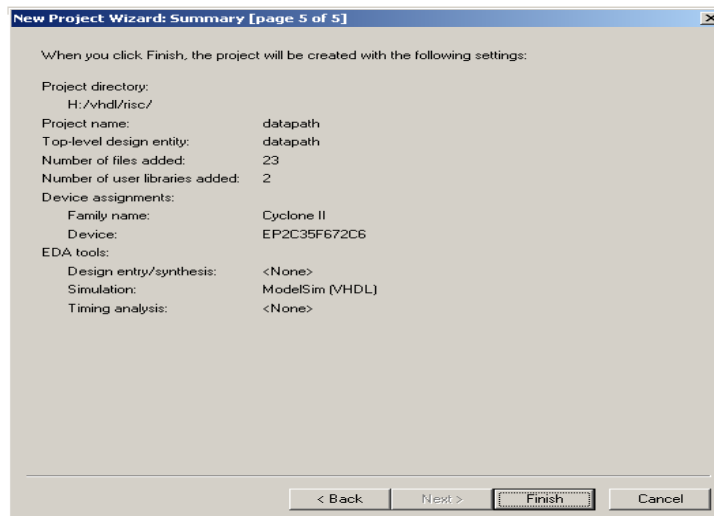

Fig. 9
8) A summary of the chosen settings appears in the screen shown in Figure 9. Press Finish, which returns to the main Quartus II window, but with the new project specified in the display title bar.